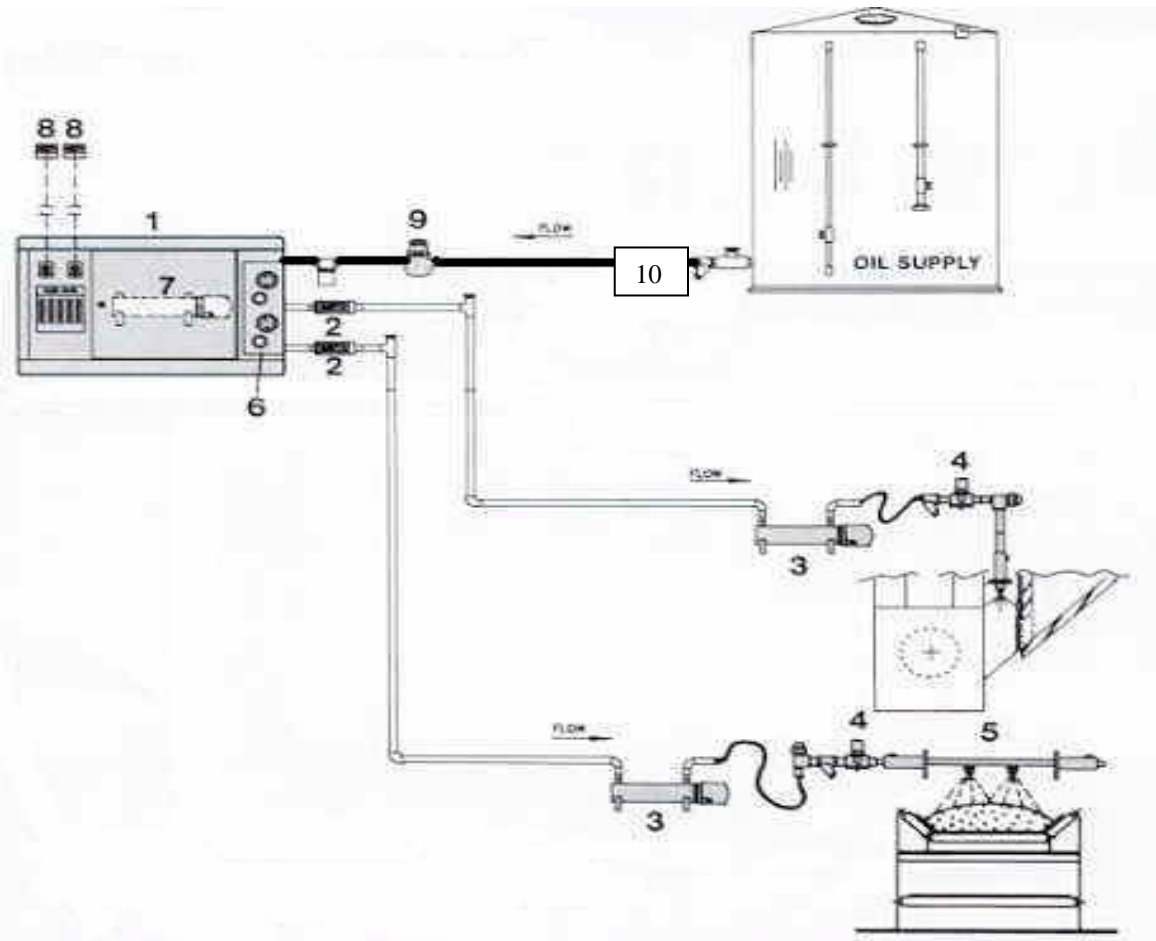

Figure 2-1 Typical Dustop System Configuration
Figure 2-1 shows the general layout of a typical Dustop II System including many of the available optional features. NOTE: Detail A in Figure 2-1 shows the arrangement required if a check valve is used on the supply line to the Dustop II System.
See Figure 2-1, Typical Dustop Configuration Refer to Paragraph 3.3.5 for Field Wiring.
The System should be piped in the sequence as given in the following paragraphs, starting at the supply tank or barrel connection point and working towards the spray points. See Figure 2-1.
- E. If a booster pump is required, locate it AFTER the heater if one is located in the supply line. A pump will last longer and operate more efficiently if it is not required to pump cold oil. See Figure 2-1 and Figure 3-16.